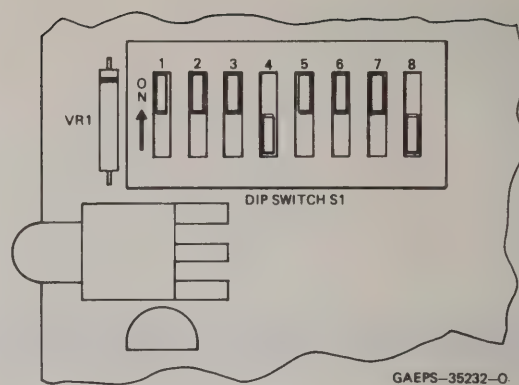

Figure 1. Timer Set to Alarm 45 Minutes After Loss of Push-To-Talk
5.2 An example is shown in Figure 1, on how dip switch S1 is set to program the system timer to produce an alarm 45 minutes after loss of push-to-talk. Refer to Figure 1.